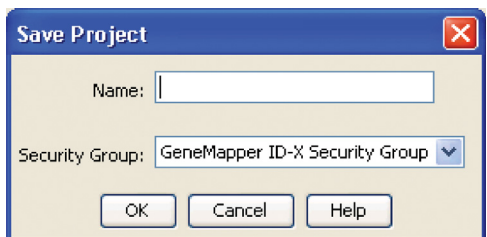

Figure 15. The Save Project window.
9. If all analysis requirements are met, the Save Project window will open (Figure 15).
8. If all analysis requirements are met, the Save Project window will open (Figure 15).